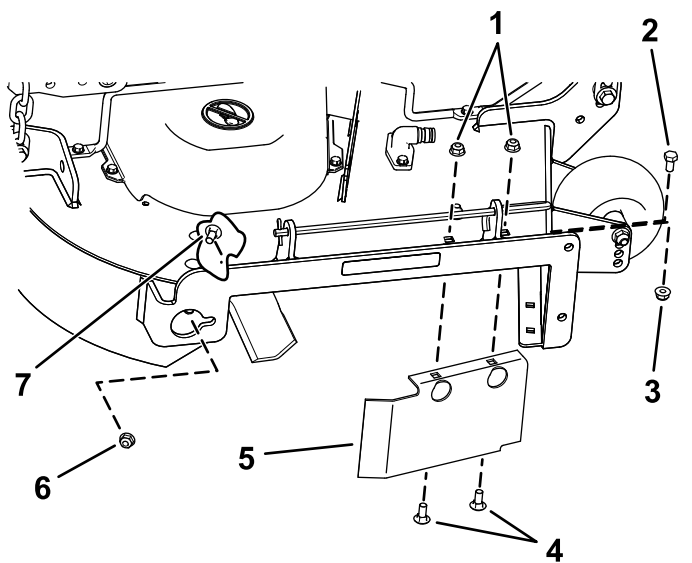

Figure 18
8. Remove the carriage bolt (5/16 x 3/4 inch) and locknut (5/16 inch) on the rear wall of the mower deck securing the baffle to the deck (Figure 18).
9. Locate the baffle guard at the front edge of the side discharge opening (Figure 18).
10. Remove the fasteners securing the baffle guard and the right baffle to the mower deck (Figure 18).
13. Install the fasteners removed previously at the front holes in the discharge plate and forward hole in the deck (Figure 18).